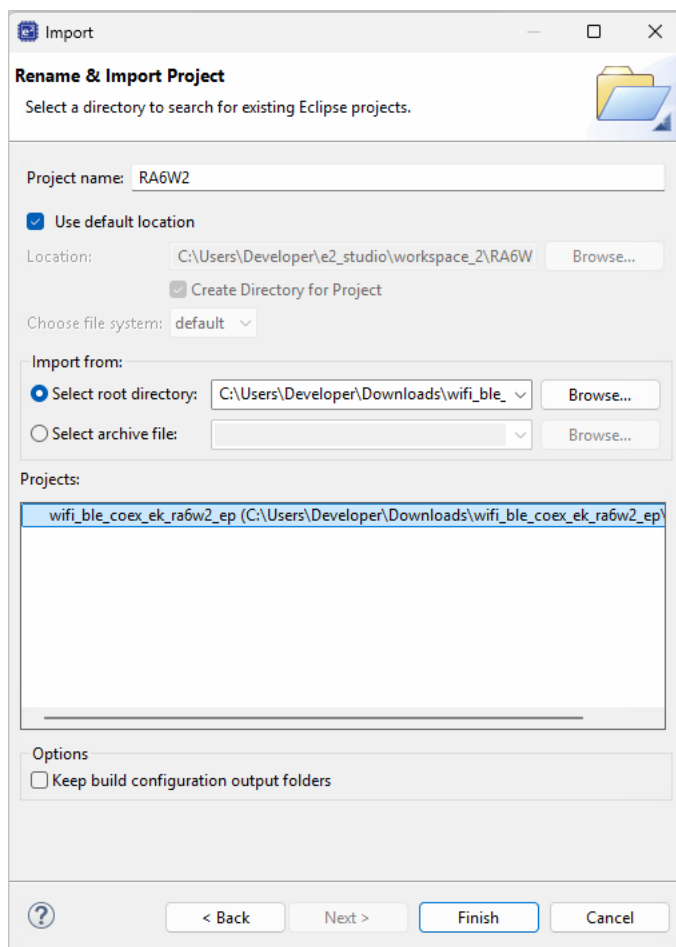

Figure 90. Finish import
5. In the **Project name** field, enter the name and click **Finish**, see Figure 90.